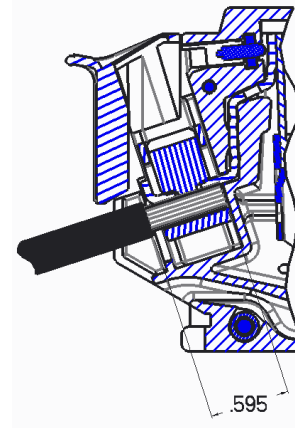

Figure 4: Stripped wire installed.
6. Wire the circuit breaker to be used as main. **Fig. 4**
After stripping the wires to the required length, the wires can be installed as shown in **Figure 4**. The service barrier must be correctly installed to maintain electrical isolation from accidental contact. Torque the wires according the torque specification on the breaker.